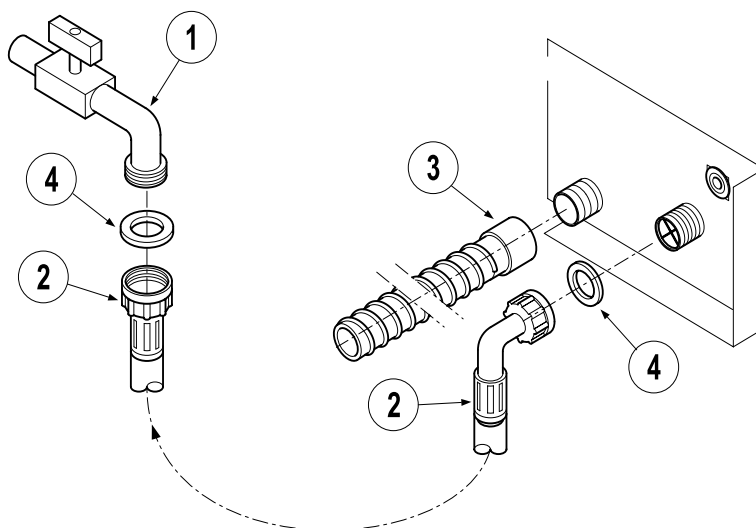

FIG. 3
**CONNECTING SUPPLY PIPE (Fig.3):**
- insert the seal washers (Fig. 3 Part 4) into the two threaded nuts of the water supply pipe (Fig. 3 Part 2);
- tighten the other threaded nut on the water supply stopcock (Fig. 3 Part 1).
**CONNECTING DISCHARGE PIPE (Fig.3)**
Then fix the water discharge pipe (Fig. 3 Part 3) in the relevant seat on the rear part of the appliance, checking that:
- the discharge pipe (Fig. 3 Part 3) is flexible;
- shut off the stopcock (Fig. 3 Part 1);